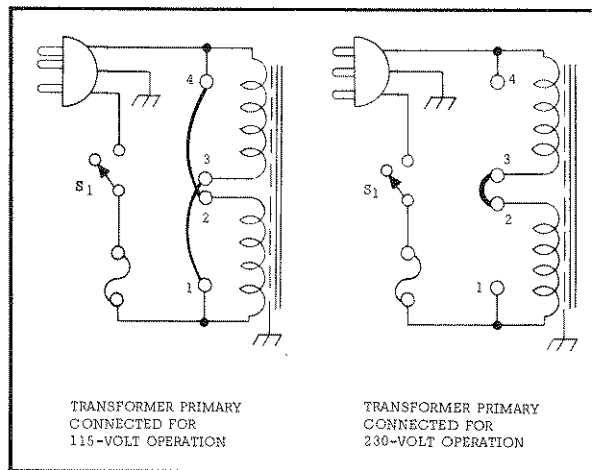

Figure 2-3. Input Power Transformer, Connections
## 2-17 CONNECTIONS FOR 230 VOLT OPERATION (Figure 2-3)
- Remove the jumpers between taps 4-2 and 3-1. Solder a jumper between taps 3-2 on the input power transformer T1, see Figure 2-3.